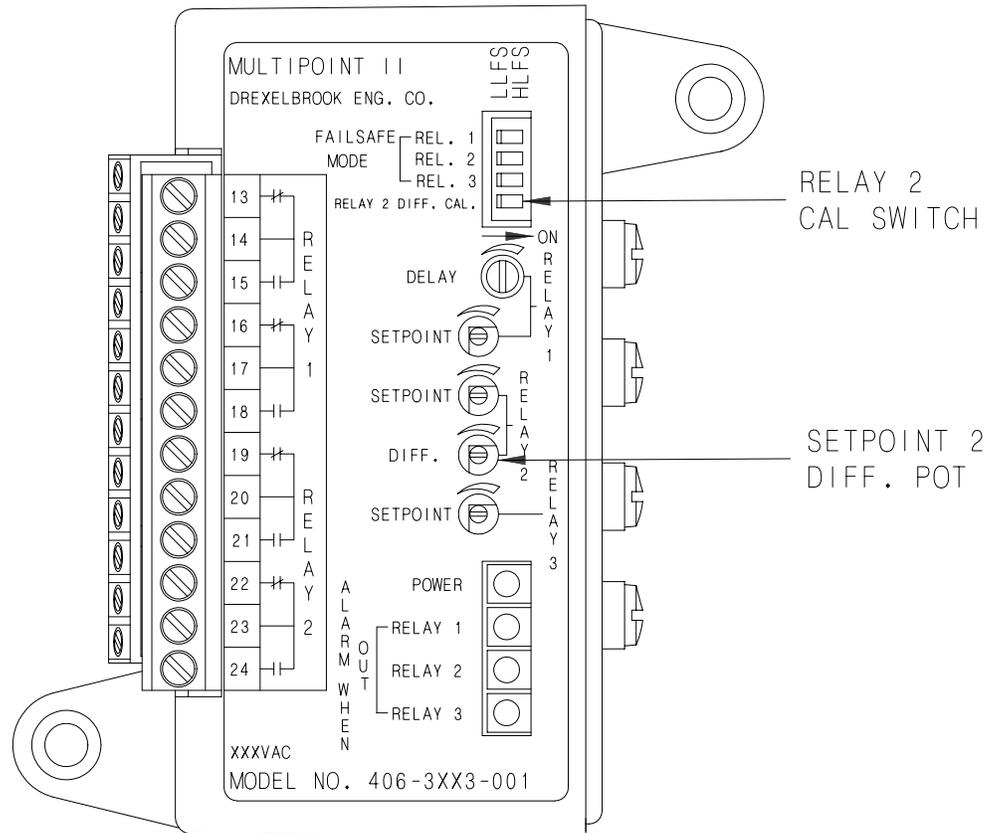

Figure 4-2
- D. See Figure 4-2. Starting with the *Setpoint Relay* pot for channel 1 in the full counterclockwise (CCW) position, turn the adjustment slowly clockwise (CW) until the relay just operates.